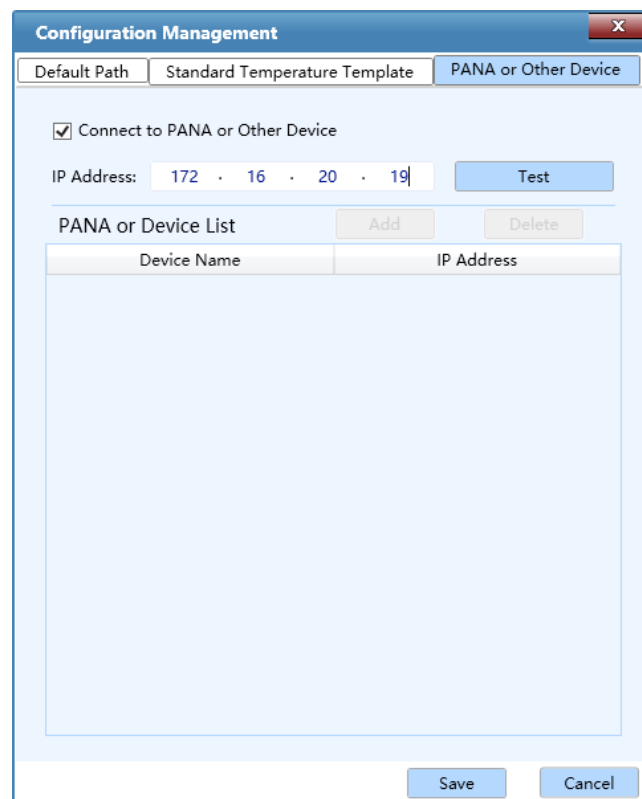

Figure D-3.8c. Configuration Management Interface - PANA Tab
- **PANA or Other Device** tab: Gentier instrument can be connected with PANA nucleic acid workstation or other device of our company, and experiment can be created according to the PCR reaction system established by PANA nucleic acid workstation or other device, as shown in figure D-3.8c.